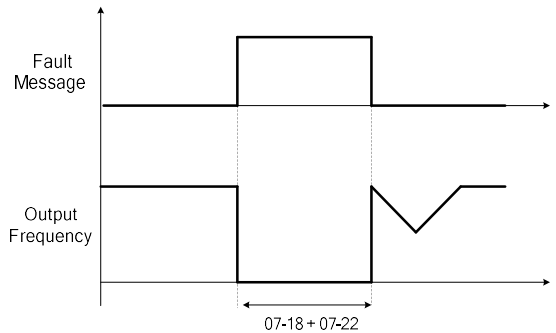

Figure 4.3.75 Automatic reset and restart operation
- Please refer to Figure 4.3.75 below automatic reset and restart operation